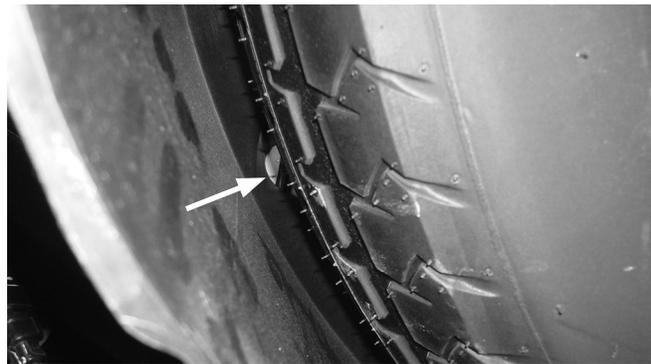

Fig. 22
21. Route the air line above and behind the crossmember, through the small hole in the spare tire shield (fig. 22).